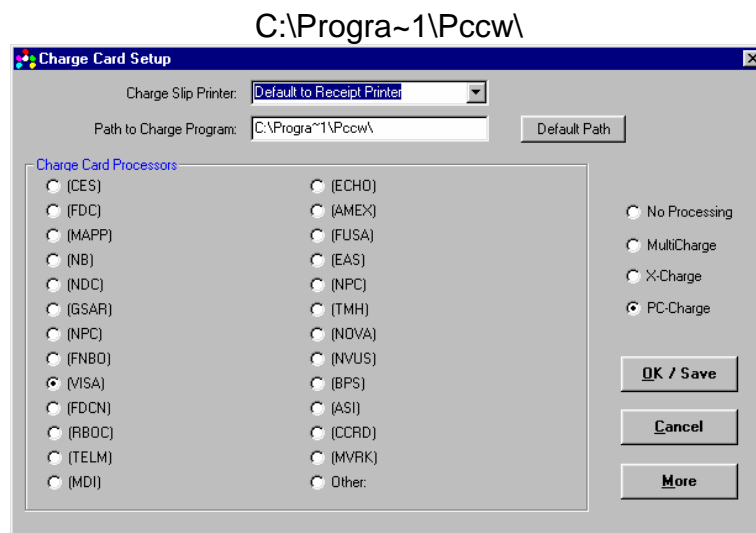

Figure 4
- Each computer on the network that will be processing credit cards must complete both PC Charge Setup screens (see Figures 4 & 5). Enter PC Charge Setup from Store Manager Office's Setup menu.
- The path to PC charge on XXX, the computer with PC Charge and the modem, would use the local path to PC Charge (see Figure 4):